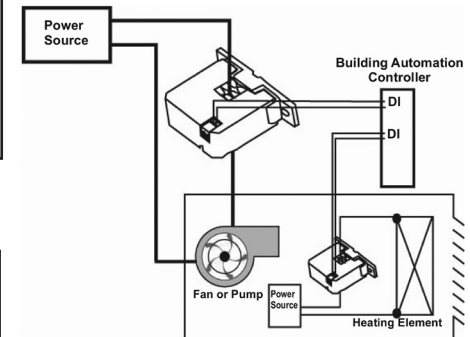

Figure 2:
- Wire CSC output terminals to the control box Digital Input (DI) terminal (30 V max. terminal voltage).
- Reconnect the power conductor cable (For wiring example, see Figures 2 and 3.)